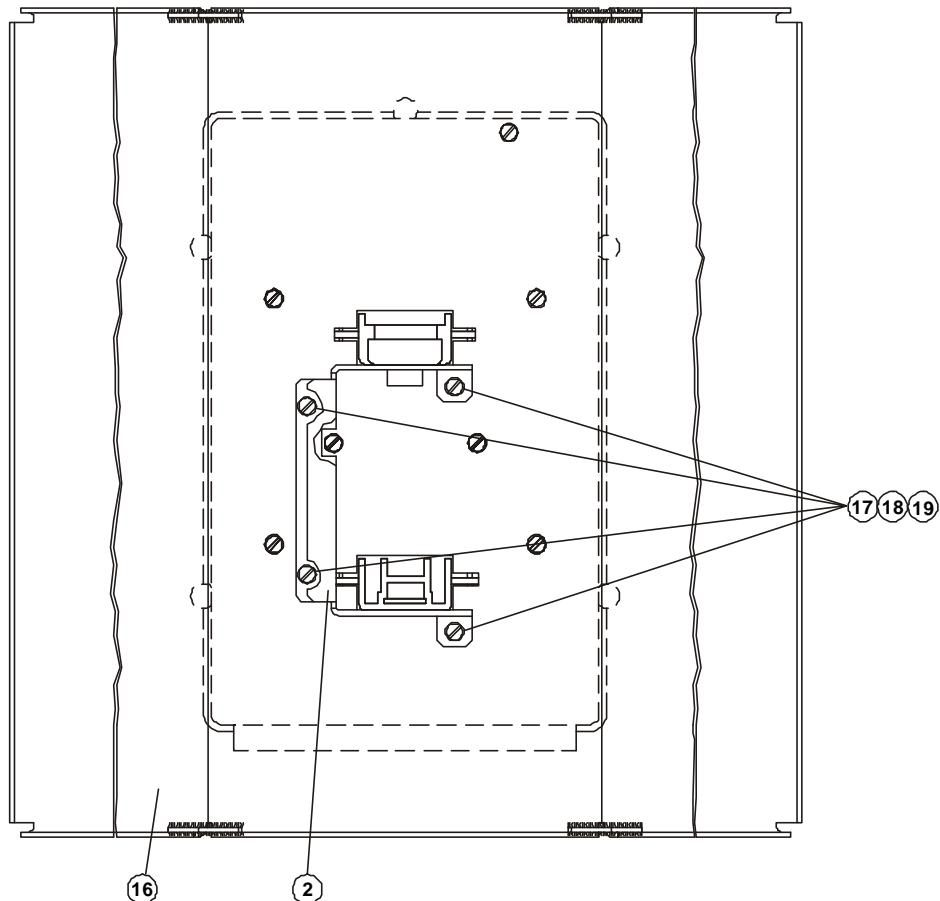

Figure 4-5. Tilt Holder Attachment
Figure 4-5 shows an upper view of a tilt holder attached to a RPC with external reflector (16).
- (2) Skip this step for RPC with external reflector: place the tilt holder on the rear side of the RPC as shown in Figure 4-5.